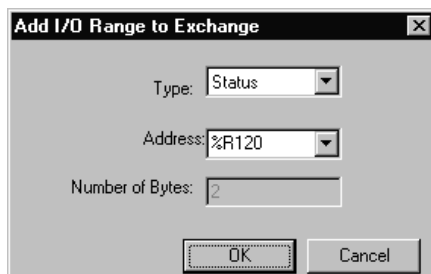

Figure 6.21 – Produced Exchange 1 Status Block Definition – Node 1
2. Make sure Exchange 1 is highlighted in the upper window (it should be the only Produced Exchange in this example) and click on the **Add Range** button, to define a Status Block for Produced Exchange 1. Then fill in the parameters, as shown in Figure 6.21 below, and click **OK**.